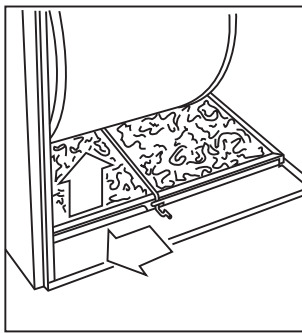

Fig. 25 - Release Filter Retaining Rod (Bottom Inlet)
• **AIR FILTER(S) LOCATED IN BLOWER COMPARTMENT BOTTOM:**
- c. Slide filter retainer sideways until it is free of latch (See Fig. 25).